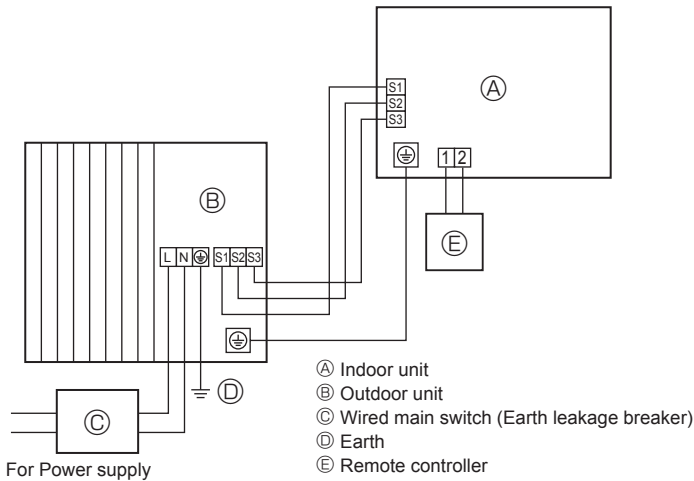
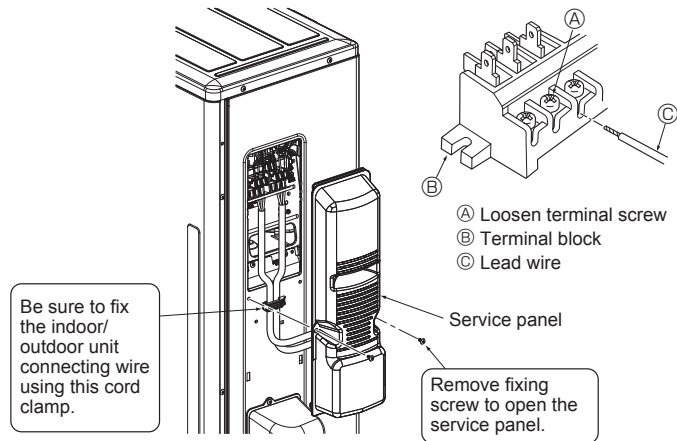
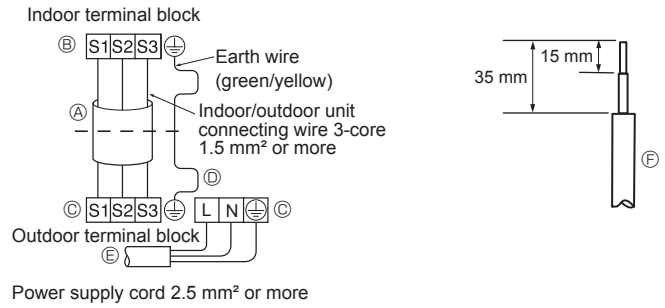

Fig. 6-1
Fig. 6-3
Fig. 6-2
### 6.1. Outdoor unit (Fig. 6-1, Fig. 6-2, Fig. 6-3)
- ① Remove the service panel.
- ② Wire the cables referring to the Fig. 6-1, Fig. 6-2 and the Fig. 6-3.
- Perform wiring as shown in the diagram to the lower left. (Procure the cable locally) (Fig. 6-2)
- (A) Connecting cable
- (B) Indoor terminal block
- (C) Outdoor terminal block
- (D) Always install an earth wire longer than other cables.
- (E) Power supply cord
- (F) Lead wire